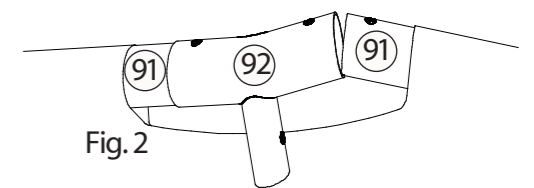

Fig. 2
3. When you get to the last connection, install the last Tee Fitting on the end of one of the beams. Lift up on both of the last two Beams in order to get them to insert into the Tee Fitting. Angle them towards each other and guide the Beam into the Fitting as you lower them both down together. See Fig. 2. This step may require two people. Now, begin inserting the Pins (93) / Grommets (97) down through the top of the Tee Fittings until the Pin snaps into place on the lower side of the Fitting as shown in Fig. 3.